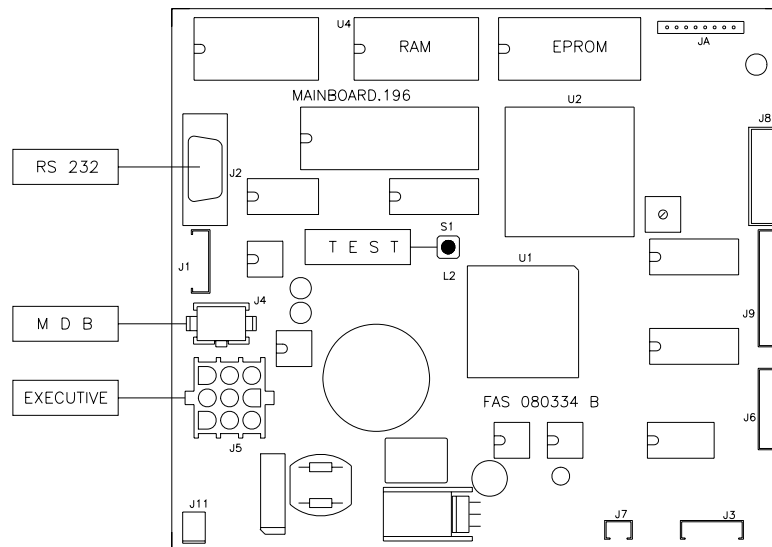

FIG. 3
- If the message "MEMORY CLEARED" appears on the display, press the button on the main board inside the box of the coin dispensing mechanism (see FIG. 3) to initialize the memory. The message "DOOR OPEN, MACHINE IN MAINTENANCE MODE" appears on the display. The machine automatically starts a self-test. If no errors are identified, the column moves into the starting position and the machine is ready for use.
When the machine is switched on for the first time the message 'INIT' and then "**memory cleared**" will appear on the display. This message indicates that the memory has no stored data, or that the data in memory are corrupted. The machine is in the same condition as it is after the "erase memory" command has been executed or the memory has failed. The memory may be automatically reset to its pre-defined default values listed in the programming instructions by pressing the pushbutton FIG. 3 on the main board mounted in the coin mechanism compartment.
It is also possible to make a function test of the machine. Press the push-button test FIG. 3 mounted on the main board. The message "**FREE VEND**" will appear on the display if everything is OK, otherwise the selection "out of service" will be displayed. To restore the selection press the corresponding push-button. If the problem continues, the message indicating the type of anomaly will appear. Test vendes can be made on any selection and on the display will appear the messages to indicate that if during the working there has happened an anomaly. To return to normal operating mode press again the push-button FIG. 3 placed on the main board, **or if no action has been carried out within a 1 minute period the machine will automatically exit from "FREE VEND" and revert to Standby mode as a safety feature.**